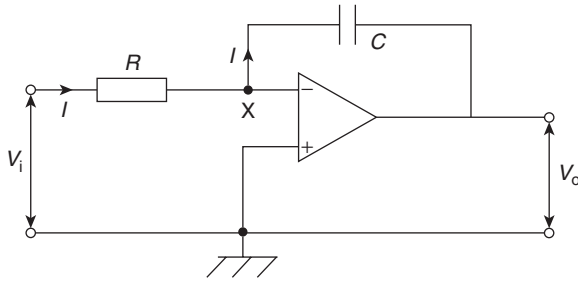

Figure 19.15
The circuit for the op amp integrator shown in Fig. 19.15 is the same as for the op amp inverting amplifier shown in Fig. 19.5, but feedback occurs via a capacitor  $C$ , rather than via a resistor.
Since the inverting (-) input is used in Fig. 19.15,  $V_o$  is negative if  $V_i$  is positive, and vice versa, hence the negative sign in equation (9).
Since X is a virtual earth in Fig. 19.15, i.e. at 0V, the voltage across R is  $V_i$  and that across C is  $V_o$ . Assuming again that none of the input current  $I$  enters the op amp inverting (-) input, then all of current  $I$  flows through C and charges it up. If  $V_i$  is constant,  $I$  will be a constant value given by  $I = V_i/R$ . Capacitor C therefore charges at a constant rate and the potential of the output side of C (=  $V_o$ , since its input side is zero) changes so that the feedback path absorbs  $I$ . If  $Q$  is the charge on C at time  $t$  and the p.d. across it (i.e. the output voltage) changes from 0 to  $V_o$  in that time then: